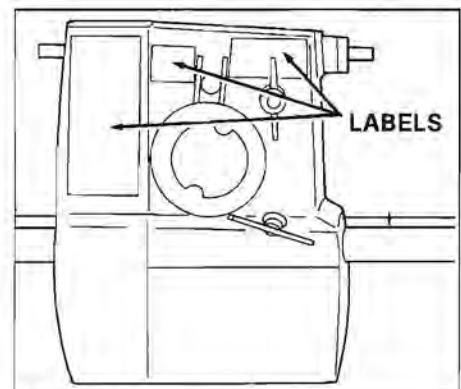

Figure 1. Attach the three new labels to the headstock.
1. **Attach the three new labels to the headstock.** Remove the three labels from the headstock and attach the three new labels at the positions shown. (See Figure 1.)